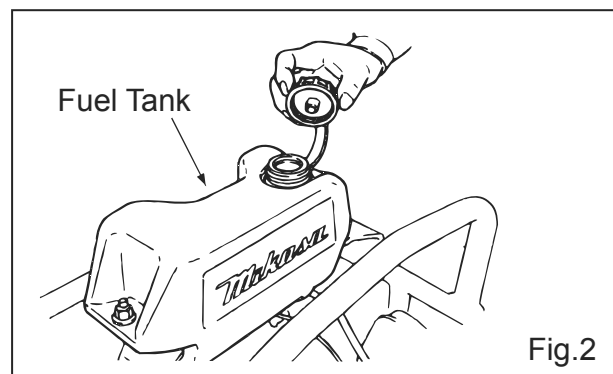

Fig.2
- 7-3. Fill the fuel tank with regular gasoline (unleaded). Simultaneously, check engine oil and make it a habit to replenish on the earlier side. Low lubrication oil level may result in engine seizure due to consumption during operation. (Fig.2 and 3-1,3-2) Nevertheless, oil level should be checked prior to start up without fail. For lubrication, use automobile engine oil of 10W-30 SE,SF or better grade. See Engine Operating Manual for further detail.